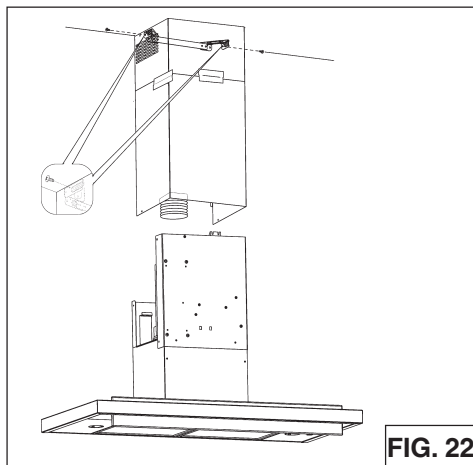

FIG. 22
7. Lift the flue into position above the hood. Secure upper flue to the flue mounting bracket with (2) 3.9 x 6 mm screws (Fig.22).